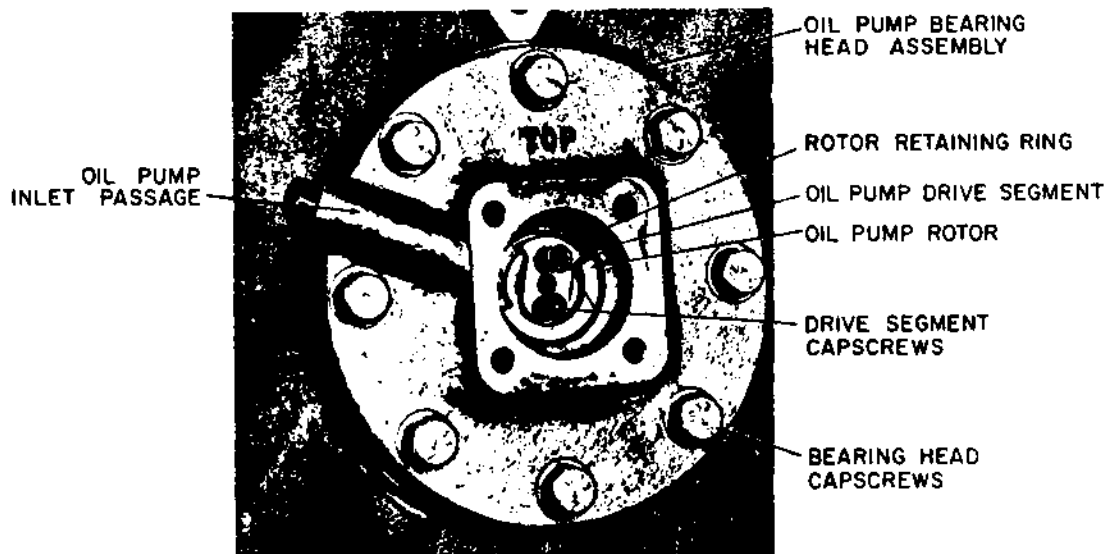

Figure 3-3. Bearing Head with Oil Pump Cover Removed
- b. Remove the two drive segment capscrews and lock washers. See figure 3-3.
d. Install the drive segment with the two capscrews and lock washers. See figure 3-3, page 3-4.